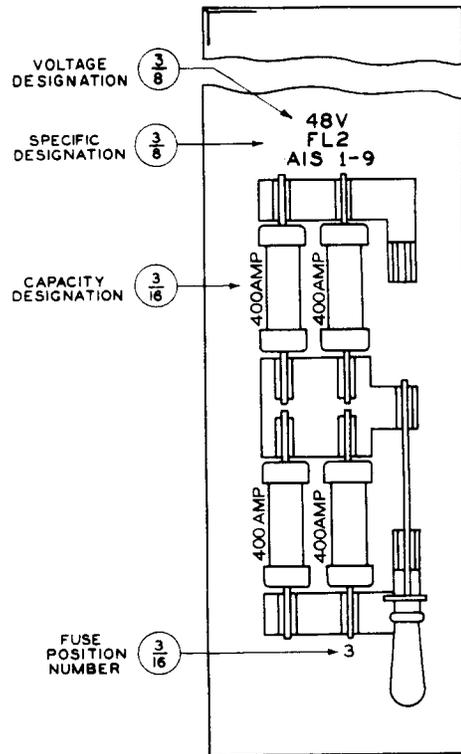
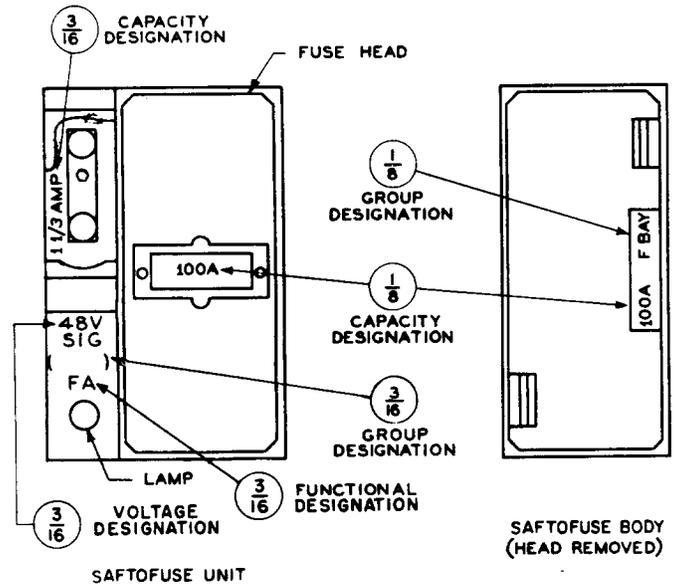
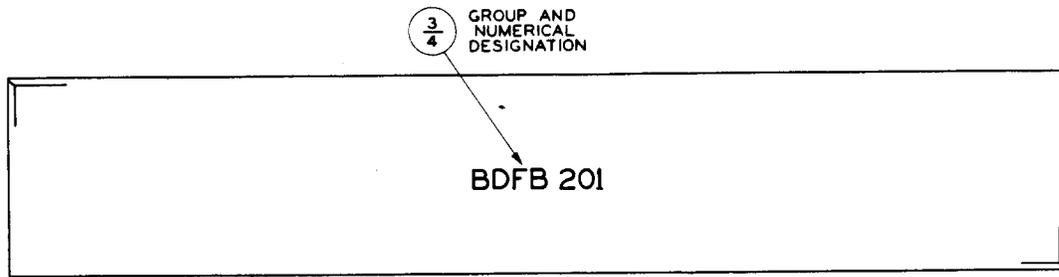
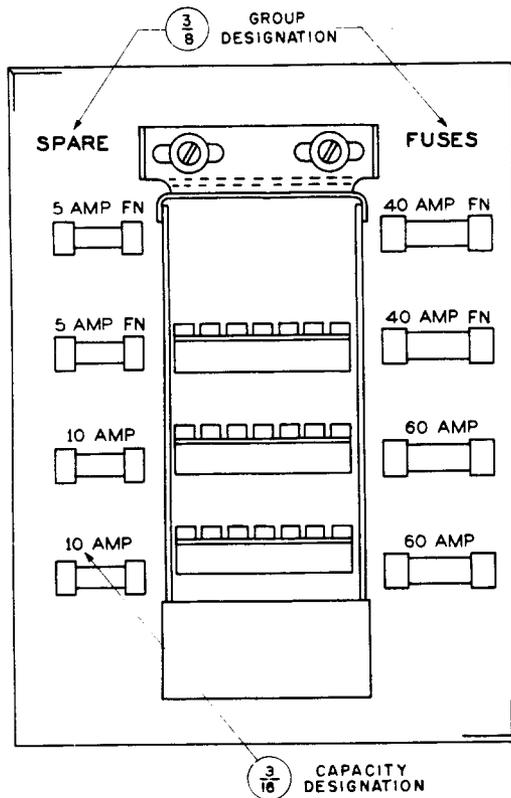

Fig. 19 - Discharge Fuses and Switch Unit
Fig. 20 - End Guard Power Fuse Mounting
Fig. 24 - Blank Panel Used for Identifying BDFB
Fig. 27 - Spare Fuse Panel for NEC Fuses and 10B Fuse Holder for Alarm-Type Fuses
2.36 For fuse panels exclusive to power plants, see Fig. 19, 25, 26, and 28. Fig. 19 shows typical designations at an equalizing center on floor 2 where one fused circuit supplies aisles 1 to 9. The floor number is used only as a final identification between two or more fuse panels which are otherwise identical. If the entire floor is supplied from one circuit, the aisle numbers are omitted. A blank panel is shown in Fig. 24 and a storage panel for spare fuses in Fig. 27. When space does not permit, the 3/8-inch designations may be reduced to 3/16 inch. All designations on the front of a fuseboard or panel, except capacity, shall be duplicated on the rear of the board unless otherwise modified by applicable specifications and drawings. For a fuse panel on a typical automatic control panel, see Fig. 50. For fuses located on end guards of line-ups of frames with decentralized fusing, see Fig. 20.